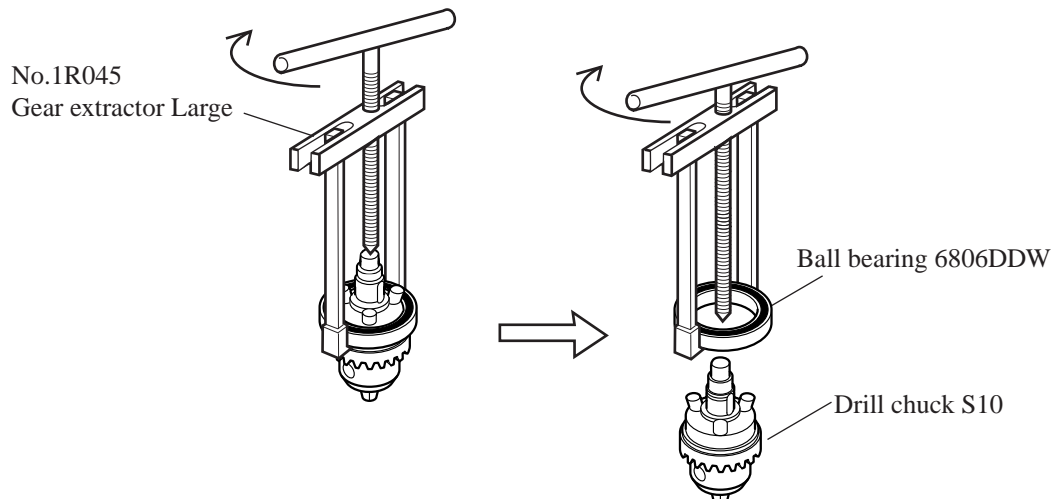

Fig. 5
(4) Remove ball bearing 6806DDW from the shaft of drill chuck S10. See Fig. 5.